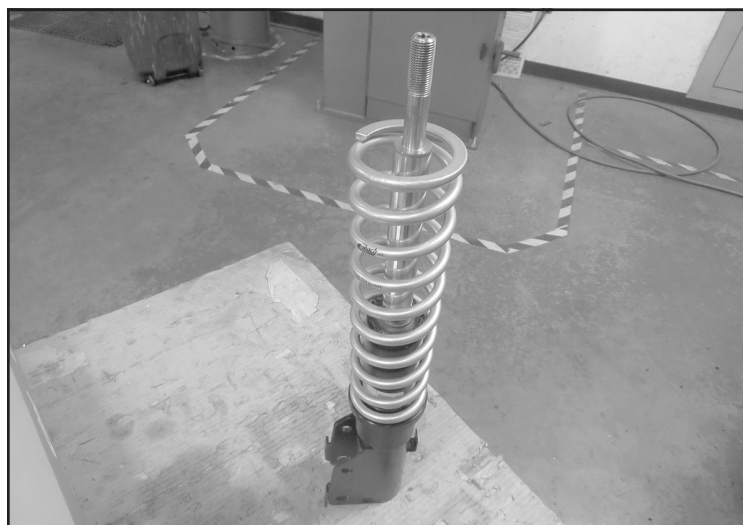

FIGURE 4 - STEP 7
7. Install FT88942 (Coil) onto the strut. **SEE FIGURE 4**